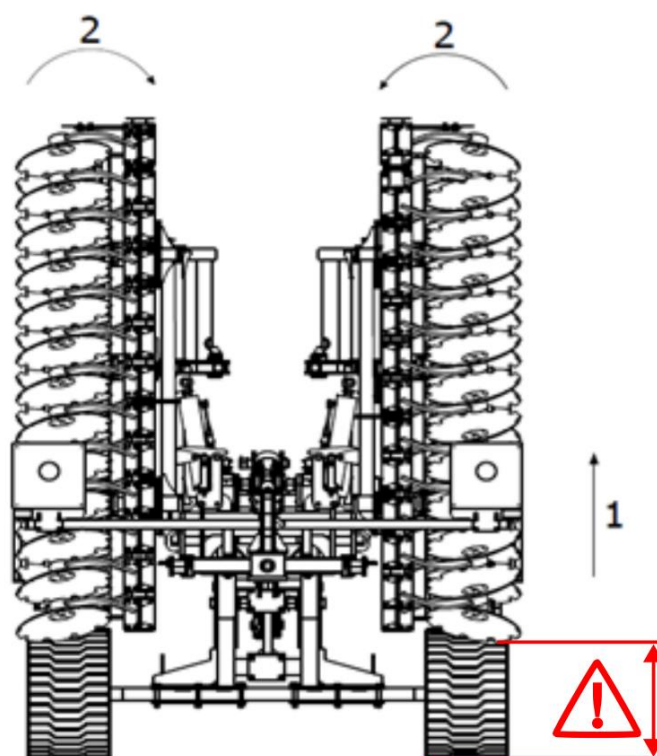

Figure 10 Machine opening sequence (1 - lift machine up to maximum (at least 60 cm), 2 - fold the machine wings into the “closed” position).
- 1) Raise the machine on the tractor's three-point linkage to a height that prevents the outermost inner wing plate from colliding with the ground (fig. 10),
- 2) Fold the machine wings to the "closed" position to unlock the wing lock mechanism (fig. 10 item 2),